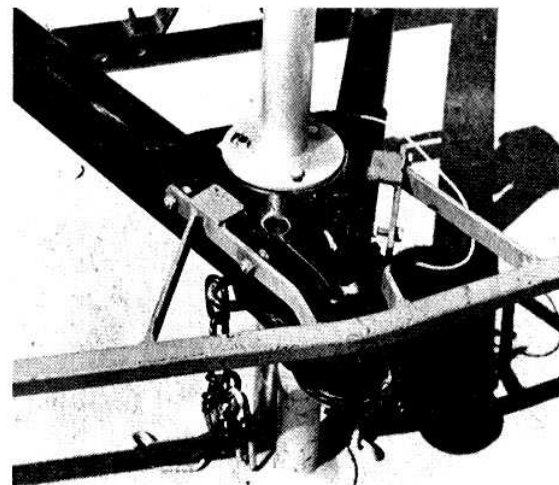

Fig. 17
6. Set the front portion of the gauge on the trailer "A" frame so that the "V" shaped flanges in the center, span the front of the "A" frame and the center mark of the "V" is pointing to the center of the hitch coupler. (See Fig. 17).